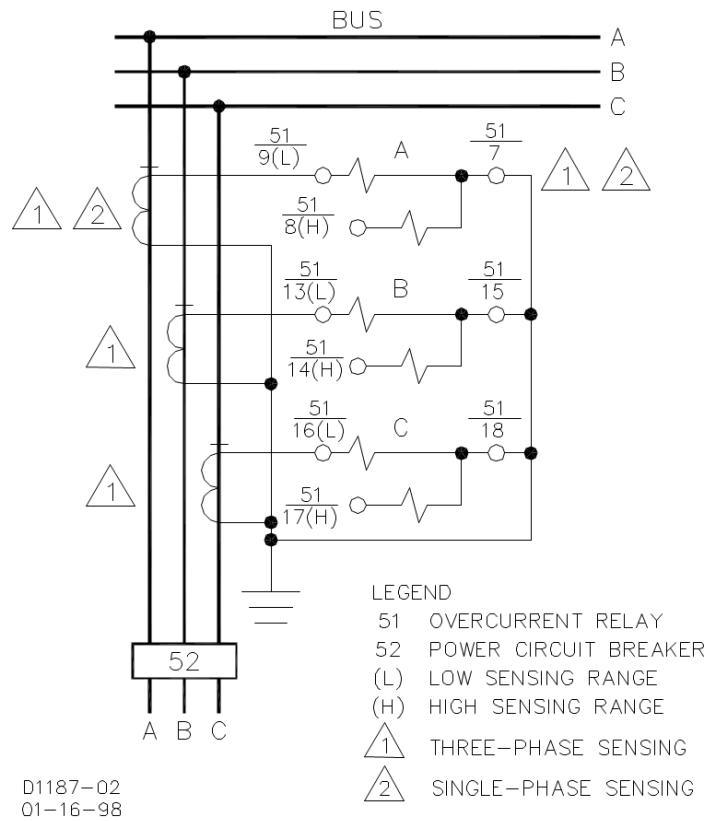

Figure 4-14. Typical Sensing External Connections, Sensing Input Type G or K
- Figure 4-14: Typical Sensing External Connections, Sensing Input Type G or K